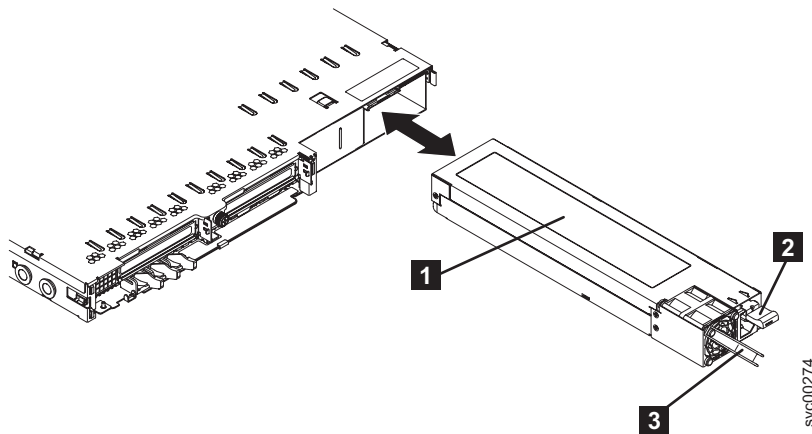

Figure 160. SAN Volume Controller 2145-8G4 power supply
1. Grasp the handle on the rear of the power supply (shown in Figure 160) and slide the power supply forward fully into the node until it clicks in place.